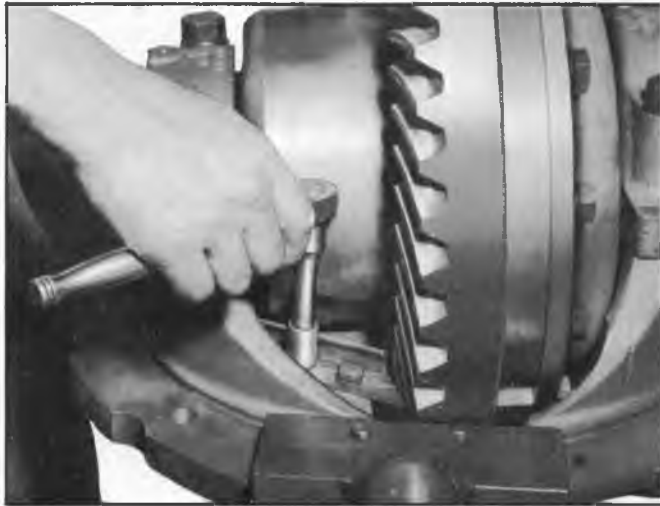

Fig. 6J--Removing Oil Trough
11. Remove the two retaining bolts and withdraw oil trough from the carrier (fig. 6J).